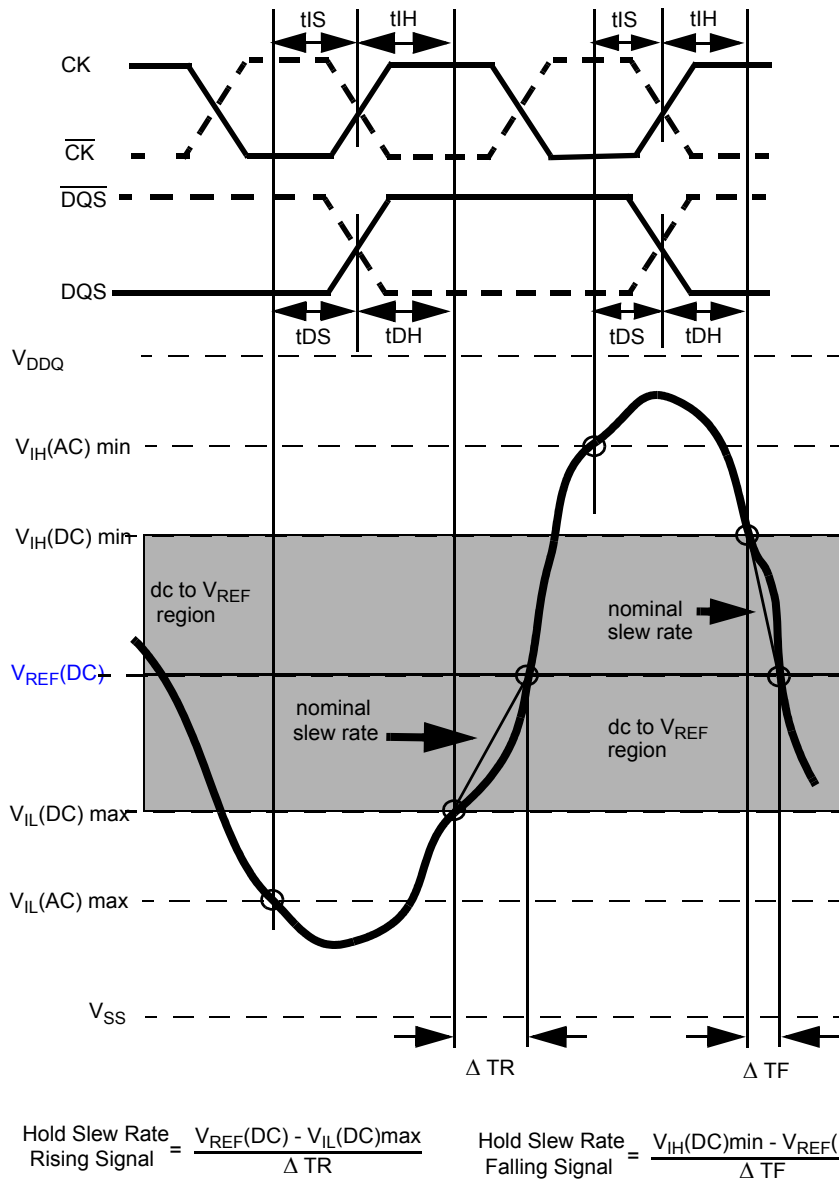
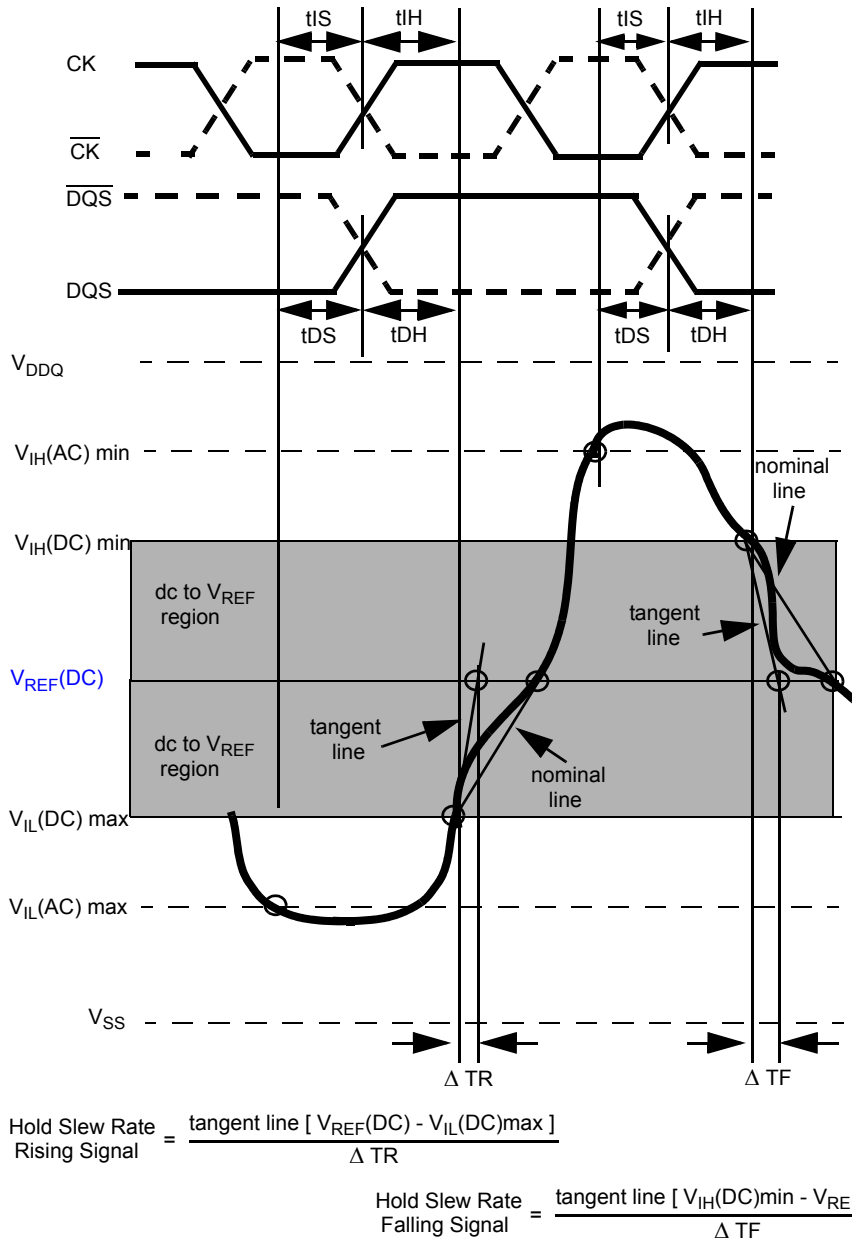

Figure 22. Illustration of nominal slew rate for hold time  $t_{DH}$  (for DQ with respect to strobe) and  $t_{IH}$  (for ADD/CMD with respect to clock).
Figure 24. Illustration of tangent line for hold time tDH (for DQ with respect to strobe) and tIH (for ADD/CMD with respect to clock)
Hold (tIH) nominal slew rate for a rising signal is defined as the slew rate between the last crossing of VIL(DC)max and the first crossing of VREF(DC). Hold (tIH) nominal slew rate for a falling signal is defined as the slew rate between the last crossing of VIH(DC)min and the first crossing of VREF(DC). If the actual signal is always later than the nominal slew rate line between shaded 'dc to VREF(DC) region', use nominal slew rate for derating value (see Figure 22). If the actual signal is earlier than the nominal slew rate line anywhere between shaded 'dc to VREF(DC) region', the slew rate of a tangent line to the actual signal from the dc level to VREF(DC) level is used for derating value (see Figure 24).